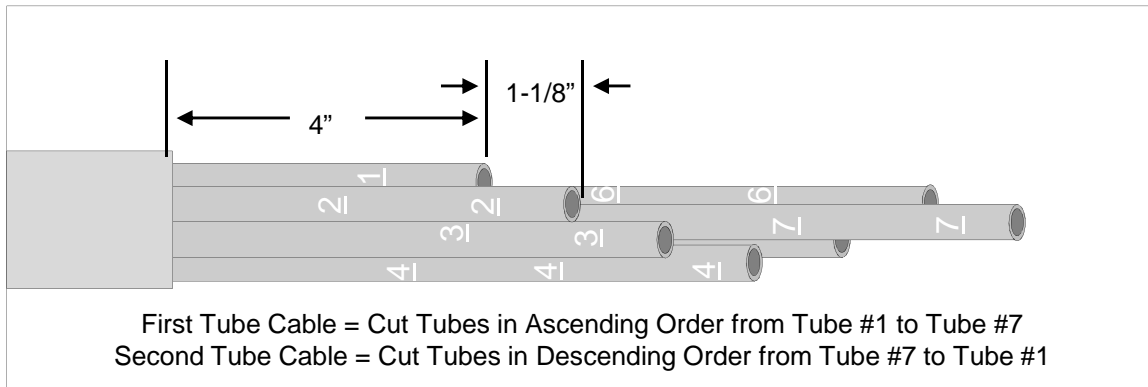

Figure 9
7.2 On first tube cable, locate Tube #1. Measure 4" in from stripped end of tube cable jacket and mark Tube #1. Use Tubing Cutter (BETC001) to cut Tube #1 at this mark. **See Fig. 9.**
7.3 Locate Tube #2. Measure 1-1/8" from the previous cut tube (Tube #1) and mark Tube #2. Use Tubing Cutter (BETC001) to cut Tube #2 at this mark. **Refer to Fig. 9.**
Use Tubing Cutter (BETC001) to cut Tube #6 at this mark. **Refer to Fig. 9.**
7.6 On second tube cable, locate Tube #7. Measure 4" in from stripped end of tube cable jacket and mark Tube #7. Use Tubing Cutter (BETC001) to cut Tube #7 at this mark. **Refer to Fig. 9.**